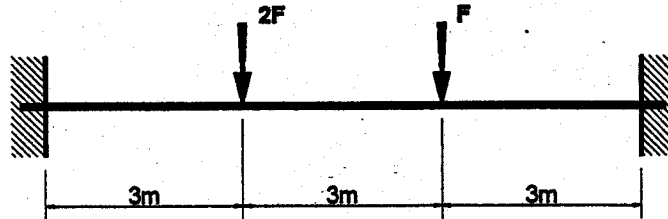

Figure Q1
- (a) Figure Q1 shows a prismatic beam with fully fixed end supports (*encastré*), subject to the factored loading shown. It is also fully restrained laterally. This beam is made from a linear-elastic-perfectly-plastic material with $M_p = 375 \text{ kNm}$. Analyse the beam on a step-by-step hinge-by-hinge basis and plot (and annotate) the load-deflection history to collapse. The material elastic modulus is E , and the second moment of area is I .